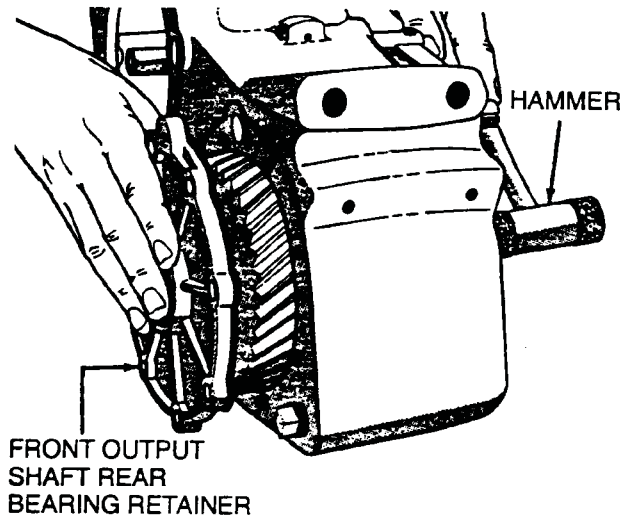

Fig. 2-4 Remove Front Output Shaft Assembly
7. Remove front output shaft, gear assembly and bearing (Fig. 2-4).